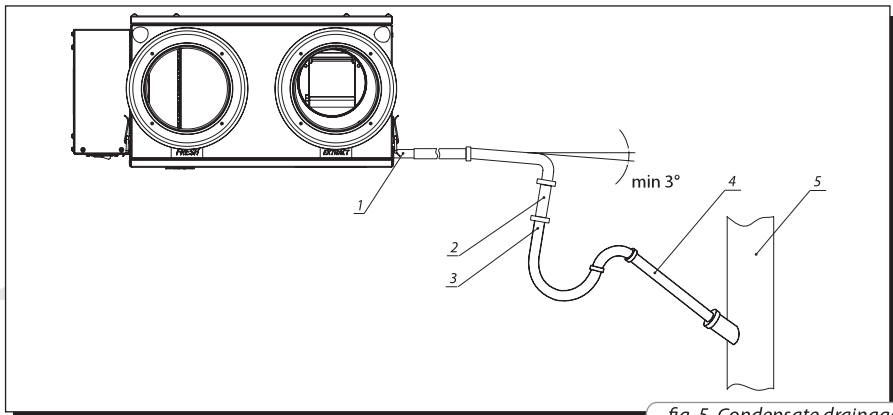

fig. 5. Condensate drainage
The Vents Frigate HRV 60 S unit is equipped with a condensate drain hose for condensate drainage (fig. 5). Connect the drain hose (1), U-trap (3) and drain system (5) with metal, plastic or rubber pipes (2 and 4). The pipes must be sloped down at least by 3°. Before starting operation of the unit fill the system with water and check that U-trap is always filled with water. Make sure that the water drainage is correct, otherwise some condensate may be accumulated inside the unit and provoke subsequent equipment damage and water ingress to the room. The condensate drainage system is designed for operation at the ambient temperature above 32 °F(0 °C). If the ambient temperature is below 32 °F(0 °C), insulate the drain system and provide air heating.